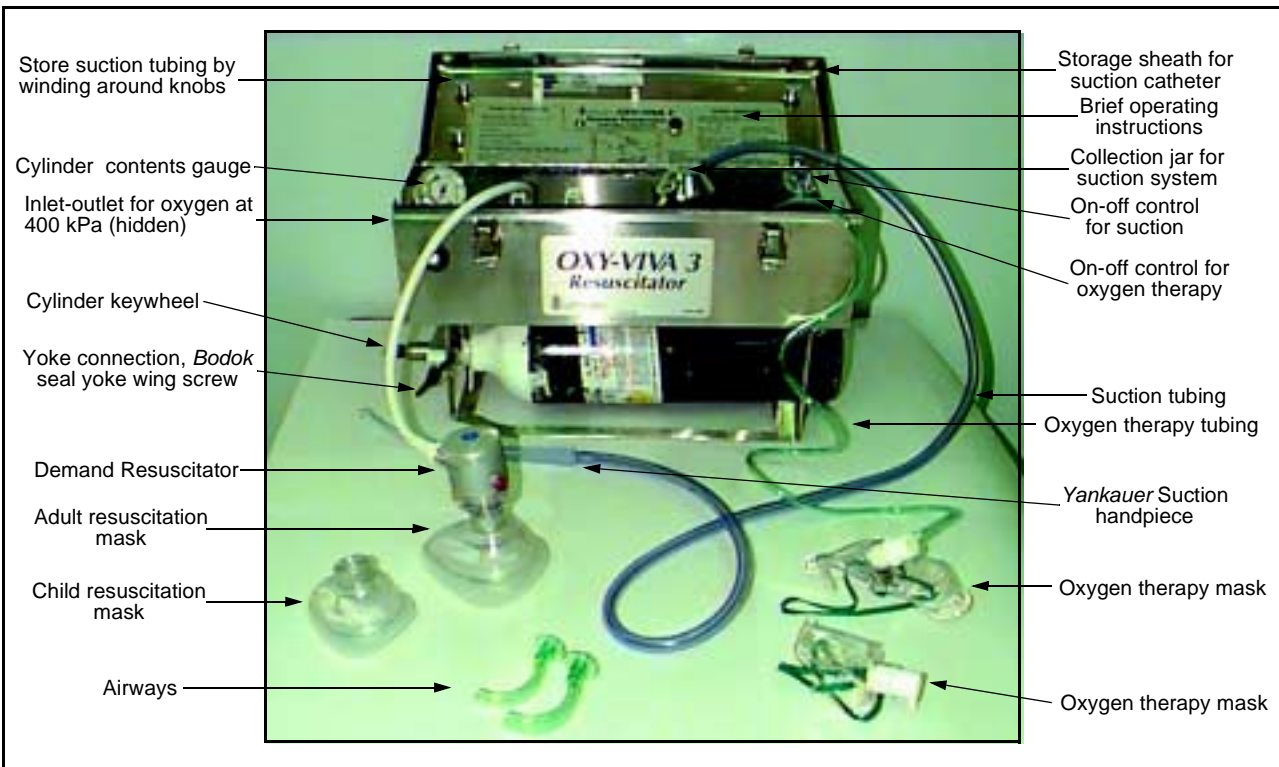

Fig 5.23 OTWO Resuscitator
- *OTWO* Demand Resuscitator (see Fig 5.23).